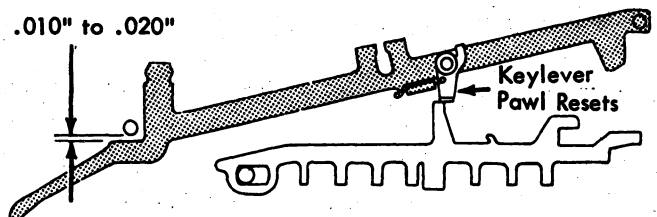

FIGURE 10. Front Keylever Guide Comb
10. **Front Keylever Guide Comb - Position the guide comb vertically to allow the keylevers to travel .010" to .020" after the keylever pawl resets** (Fig. 10).